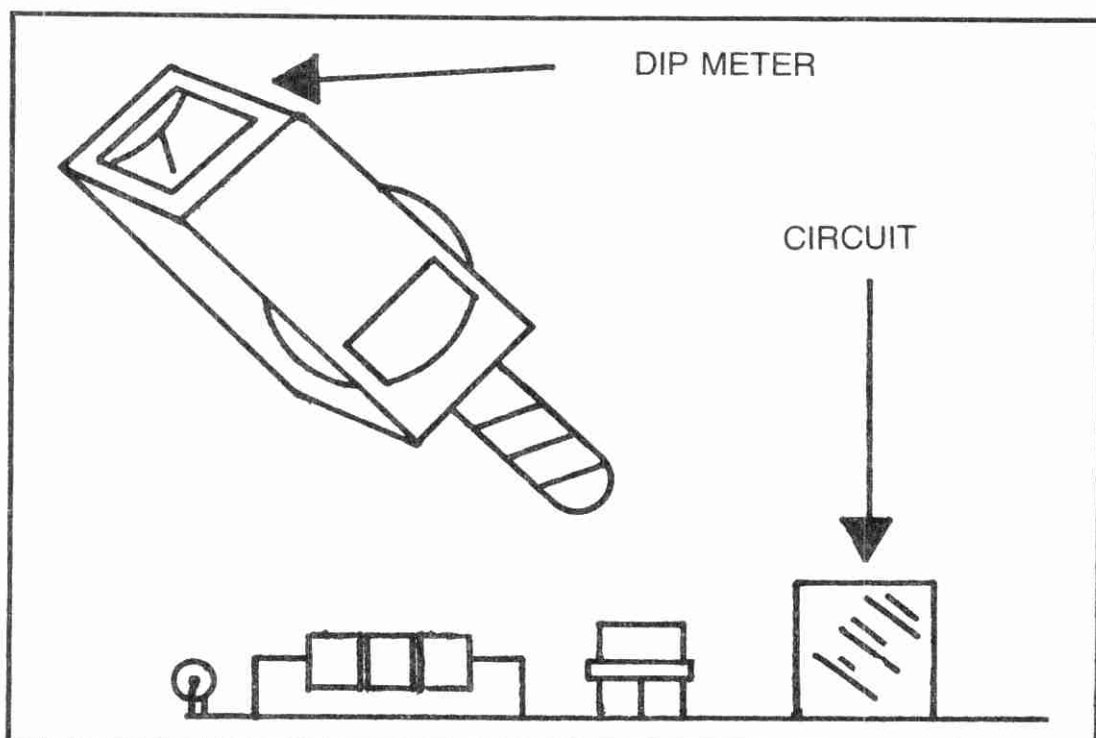

Fig. 14-5. Close-couple the dipper to the circuit to use it as a substitute oscillator.
Substitute Oscillator. If you are checking the local oscillator (LO) of any HF and VHF/UHF receiver, loosely couple the oscillator to the inductor of the dip meter (Fig. 14-5) and note what happens as you tune the dip meter across the appropriate band. You will hear stations (if the band is active!) if the receiver LO is dead, or